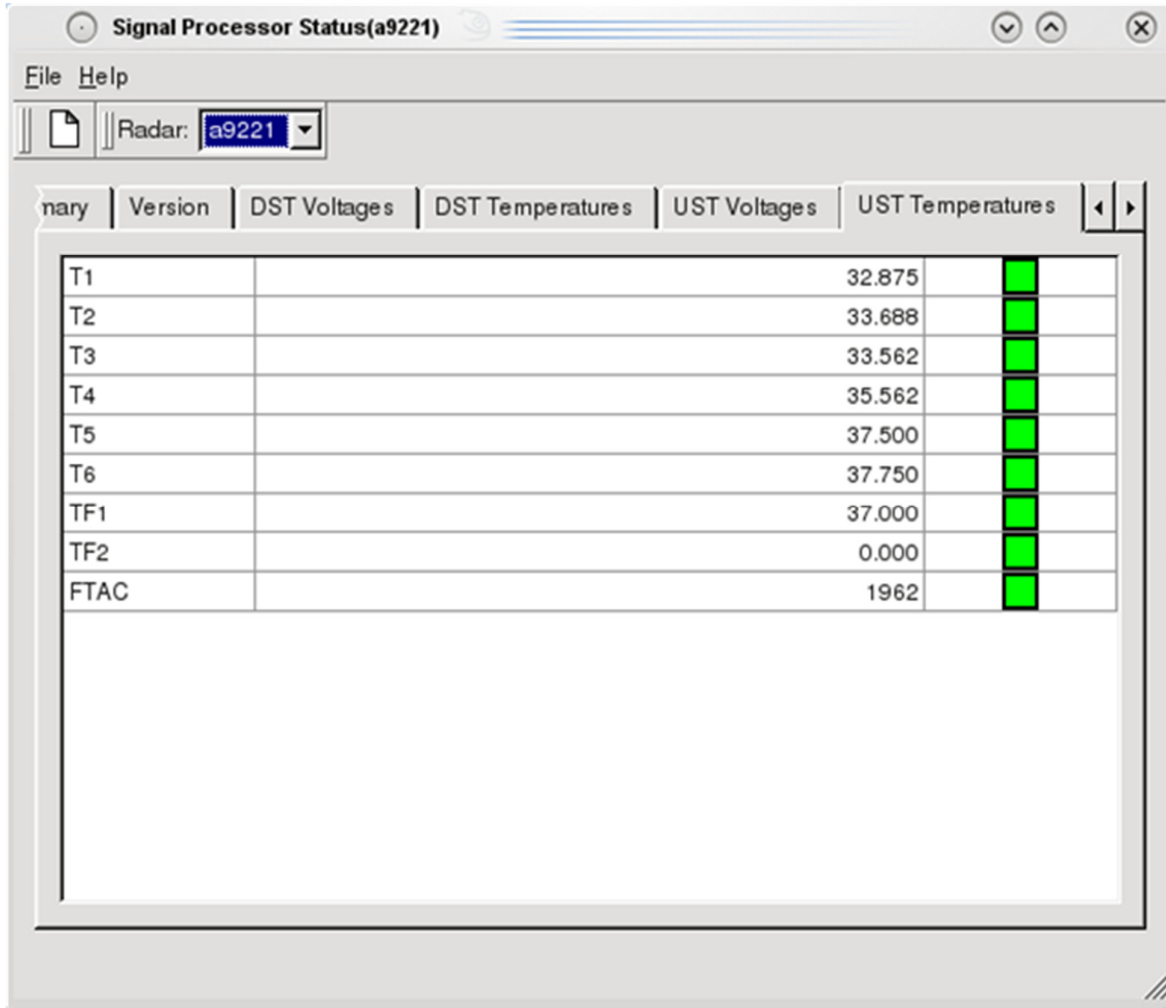
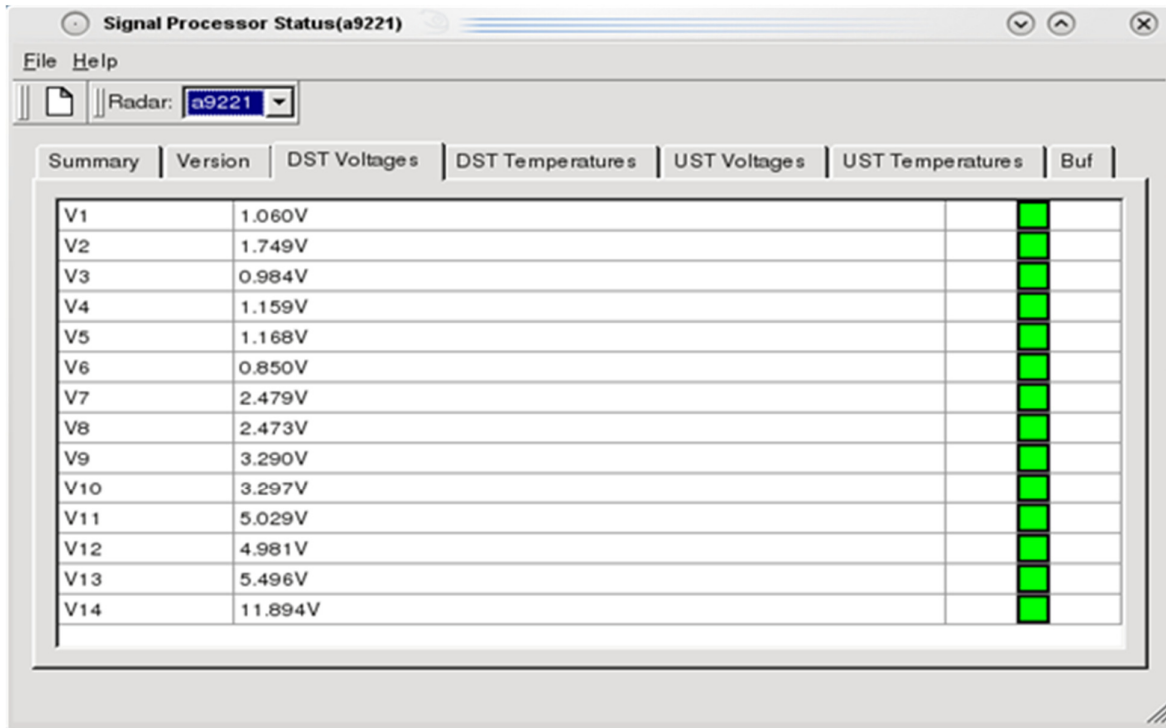

Figure 19 UST Temperature Tab
Figure 22 DST Voltages Tab
2. Use Figure 19 to Figure 22 as reference, select the corresponding TAB and verify that each parameter displayed is shown to be in a GREEN state, which indicates a Pass condition.